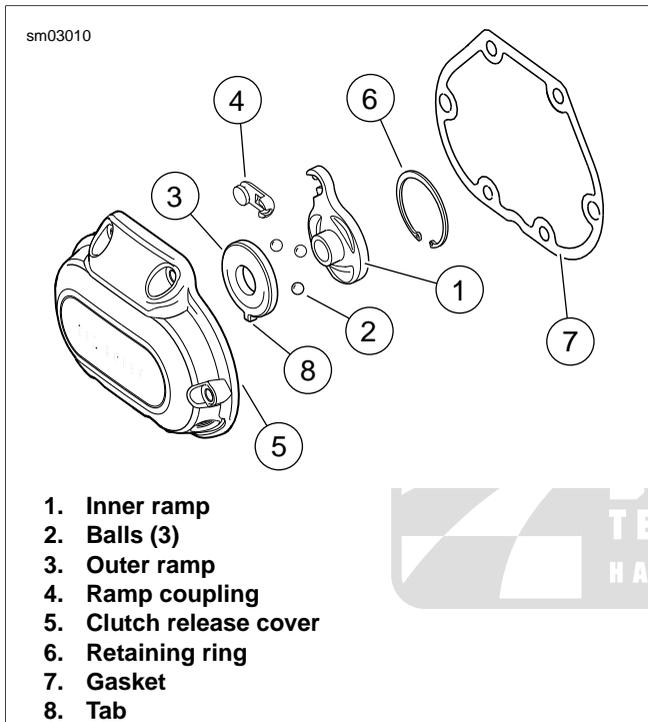

Figure 7-6. Release Mechanism Assembly
1. See Figure 7-6. Wash the ball and ramp mechanism components in cleaning solvent.
2. Inspect the three balls (2) and ball socket surfaces on ramps (1, 3) for wear, pitting, surface breakdown and other damage. Replace damaged parts.
3. Check fit of the ramp coupling (4) on inner ramp (1). Replace both parts if there is excessive wear.
4. Inspect the retaining ring (6) for damage or distortion.
6. Check the bore in the cover (5) where the ramps (1, 3) are retained. There should be no wear that would cause the ramps to cock, causing improper clutch adjustment.
2. See Figure 7-6. Place outer ramp (3) with ball socket side up in clutch release cover. Be sure tab (8) is in clutch release cover slot.